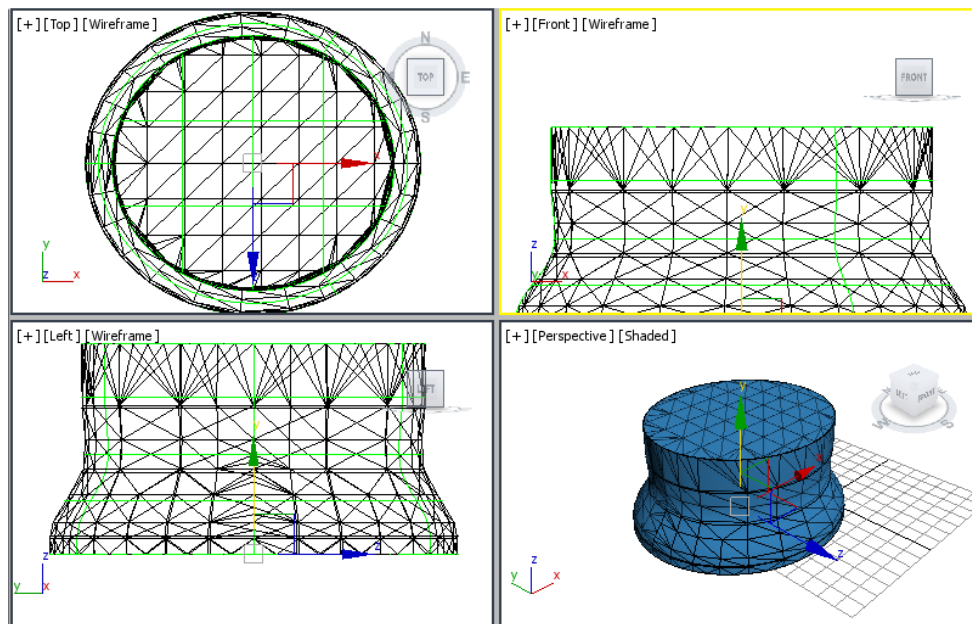

Figure 15-89 The NURBS surface capped at one end
4. Now, choose the **Create Cap Surface** button from the **Surfaces** section in the **NURBS** toolbox; the **Cap Surface** rollout is displayed in the Modify panel. Now, move the cursor over *Circle005*, which is placed at the top in the Front viewport, and then click on it. Also, in the **Cap Surface** rollout, select the **Flip Normals** check box. The open surface is now capped at one end, as shown in Figure 15-89. Next, right-click to exit the **Create Cap Surface** command.